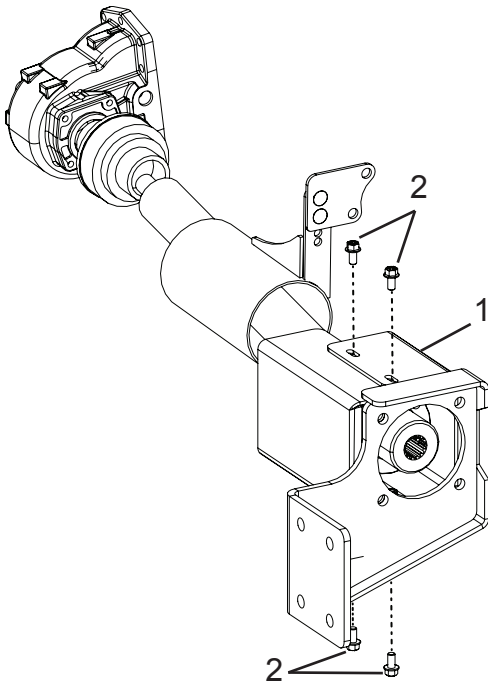

Figure 17
16. Install the existing half of the pump mount cover (Figure 17, Item 1) using the retained hardware (Figure 17, Item 2). Use a torque wrench to torque the hardware to 28 ft.-lbs.